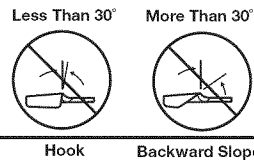

Fig. 45
- **INCORRECT (LESS THAN 30°)** – For cross cutting (Fig. 45).
- **INCORRECT (HOOK)** – This causes the chain to “grab” and dull quickly, increasing the potential for kickback. A hook is caused by using a file with too small a diameter or a file held too low (Fig. 45).